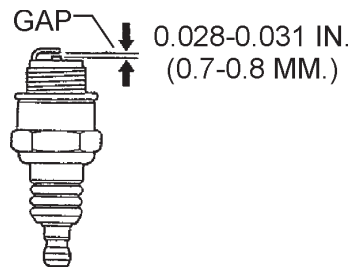

Figure 32. Spark Plug Gap
- Remove and clean the spark plug (Figure 32), then adjust the spark gap to 0.028 ~0.031 inch (0.6~0.7 mm). This unit has electronic ignition, which requires no adjustments.